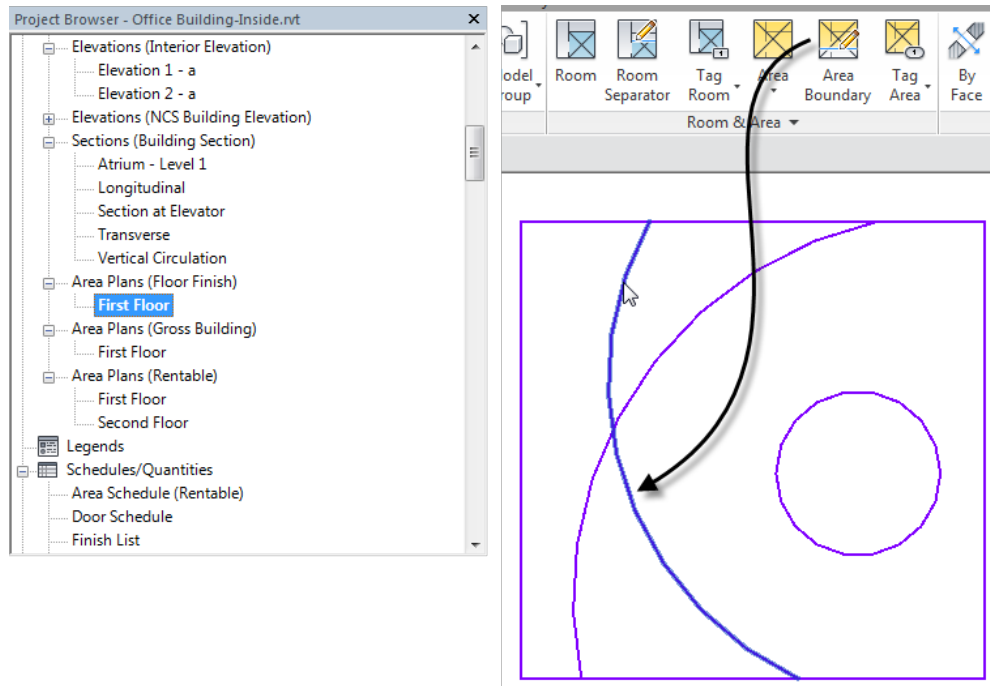

Figure 40
5. Draw boundaries using any of the drawing shapes. Unlike Split Face, these can overlap if required (see Figure 40).